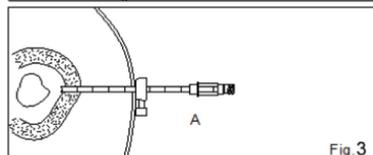

Fig 3
- FIG. 3** Firmly hold the Cutting Cannula with Handle (A+F) and unscrew and remove the Stylet (B). If desired, the Handle (F) can be removed from the Cutting Cannula (A) by placing two fingers under the Handle (F) and pressing the luer end of the Cutting Cannula (A) with the thumb.